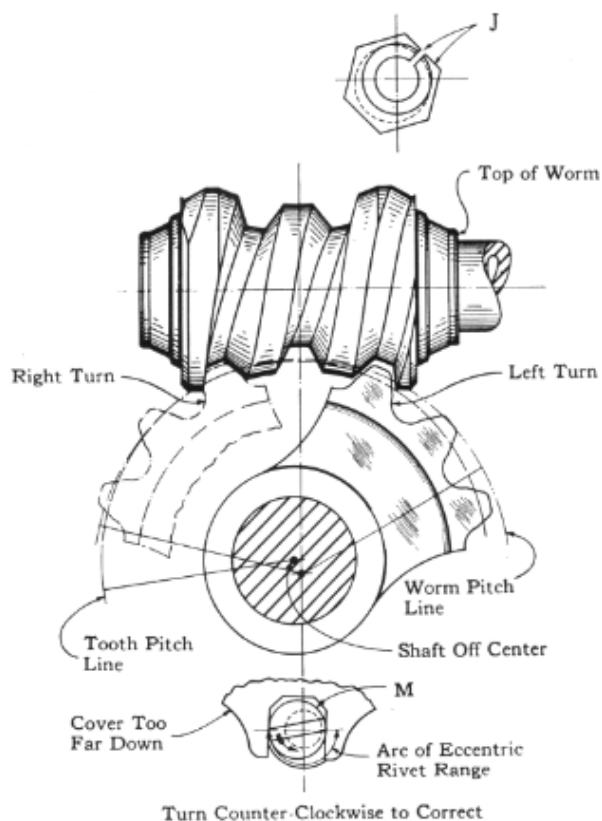

Figure 14
98. If there is more lash at left, turn eccentric rivet (M) slightly in counter-clockwise direction. (See Figure 14.)